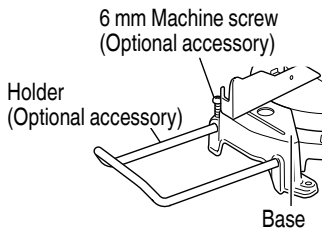

Fig. 17
- As indicating in Fig. 17, installing the holder in the holes on the side of base and fasten it with 6 mm machine screw (Optional accessory).